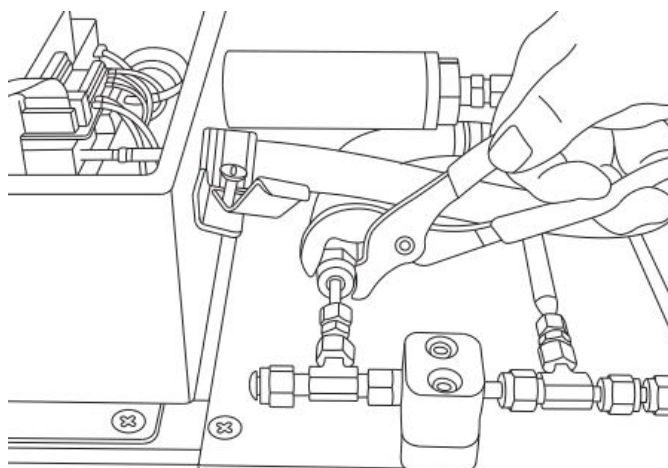

Figure 84. Loosen the cable gland cap
5. Using an adjustable wrench, loosen the cable gland cap on the panel by turning “up” toward the analyzer. Do not remove cable gland cap. Refer to Figure 84.